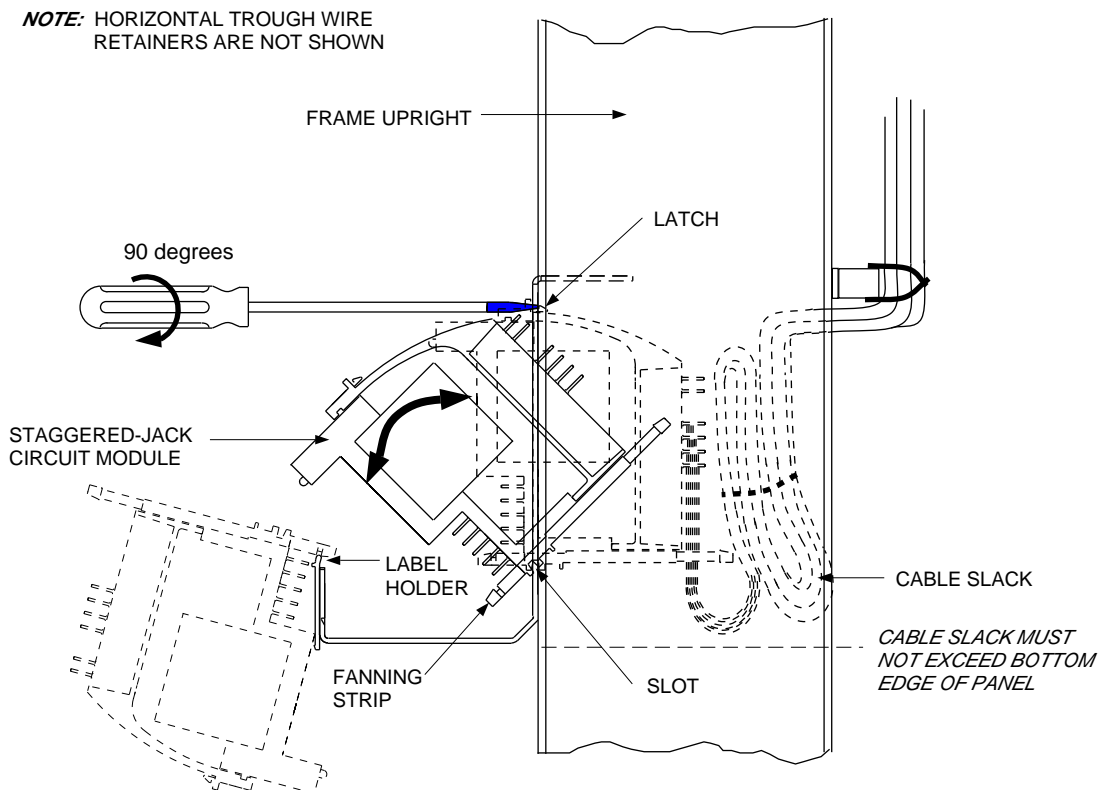

Figure 2. Installing and Removing 4-Circuit Jack Module (Four-Pack)
1. Insert flat-blade screwdriver into module's slot (see Figure 2) until blade contacts stop at back of latch.